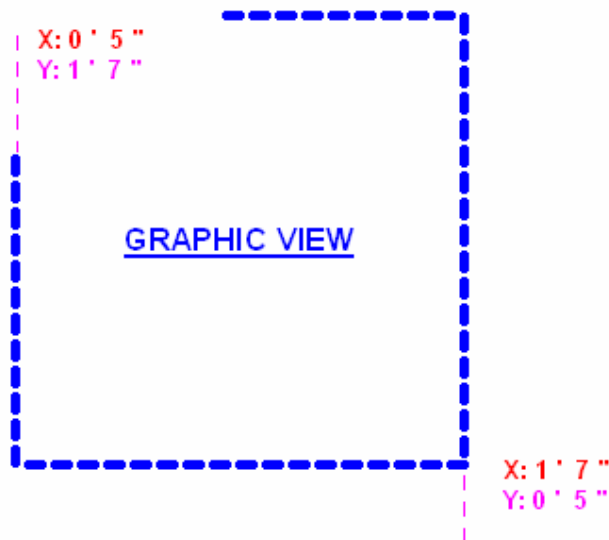

Figure 7: Placing a graphic view
10. Click at  $X=0'5''$ ,  $Y=1'7''$  to start view placement, click at  $X=1'7''$ ,  $Y=0'5''$  to finish view placement as shown in Figure 7. The drawing view properties dialog is shown